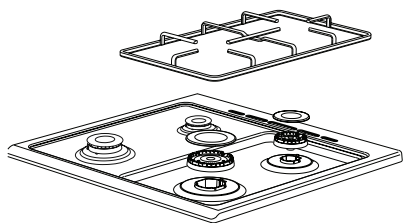

Figure 1
- 1.** Lift the grate, burner cover and burner of the product so that the injector is visible (See figure 1).